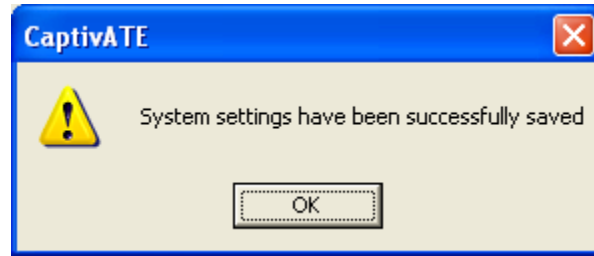

Figure 57 Updated System Settings Pop-up
*NOTE: Changes to any of the Device Settings must be followed by clicking the **Update Settings** button at the bottom of the Admin Settings screen. Once you update any setting, the message shown in Figure 57 appears.*